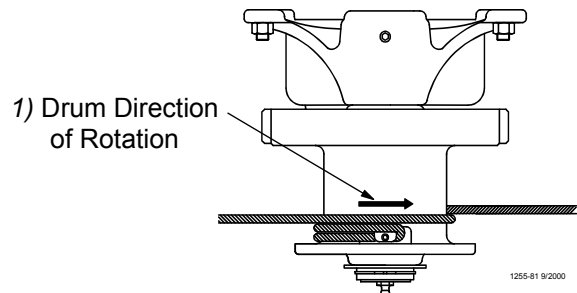

Figure 11. Power Winch Drum Rotation
5. Turn the winch drum one full revolution. Guide the cable against the flange at the bottom of the winch drum. The cable must not wrap over itself on the drum, but should be wrapped as close as possible to each previous wrap. See figure 11. **“Figure 11. Power Winch Drum Rotation” on page 10**